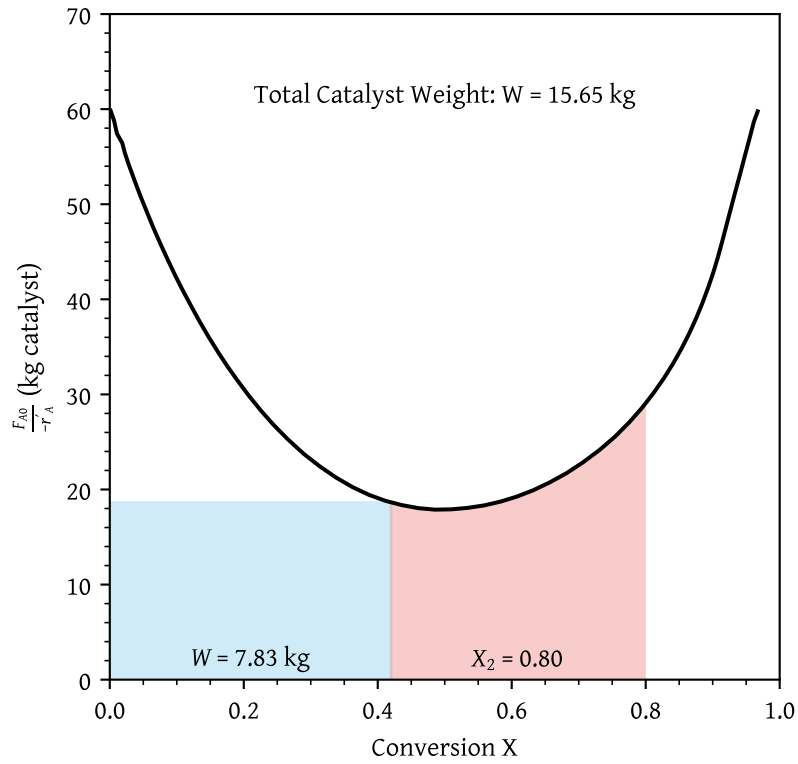

Figure 23: Levenspiel plot for an adiabatic exothermic heterogeneous reaction.
- Assuming that you have a fluidized CSTR and a PBR containing equal weights of catalyst, how should they be arranged for this adiabatic reaction? Use the smallest amount of catalyst weight to achieve 80% conversion of A. (Figure 23)